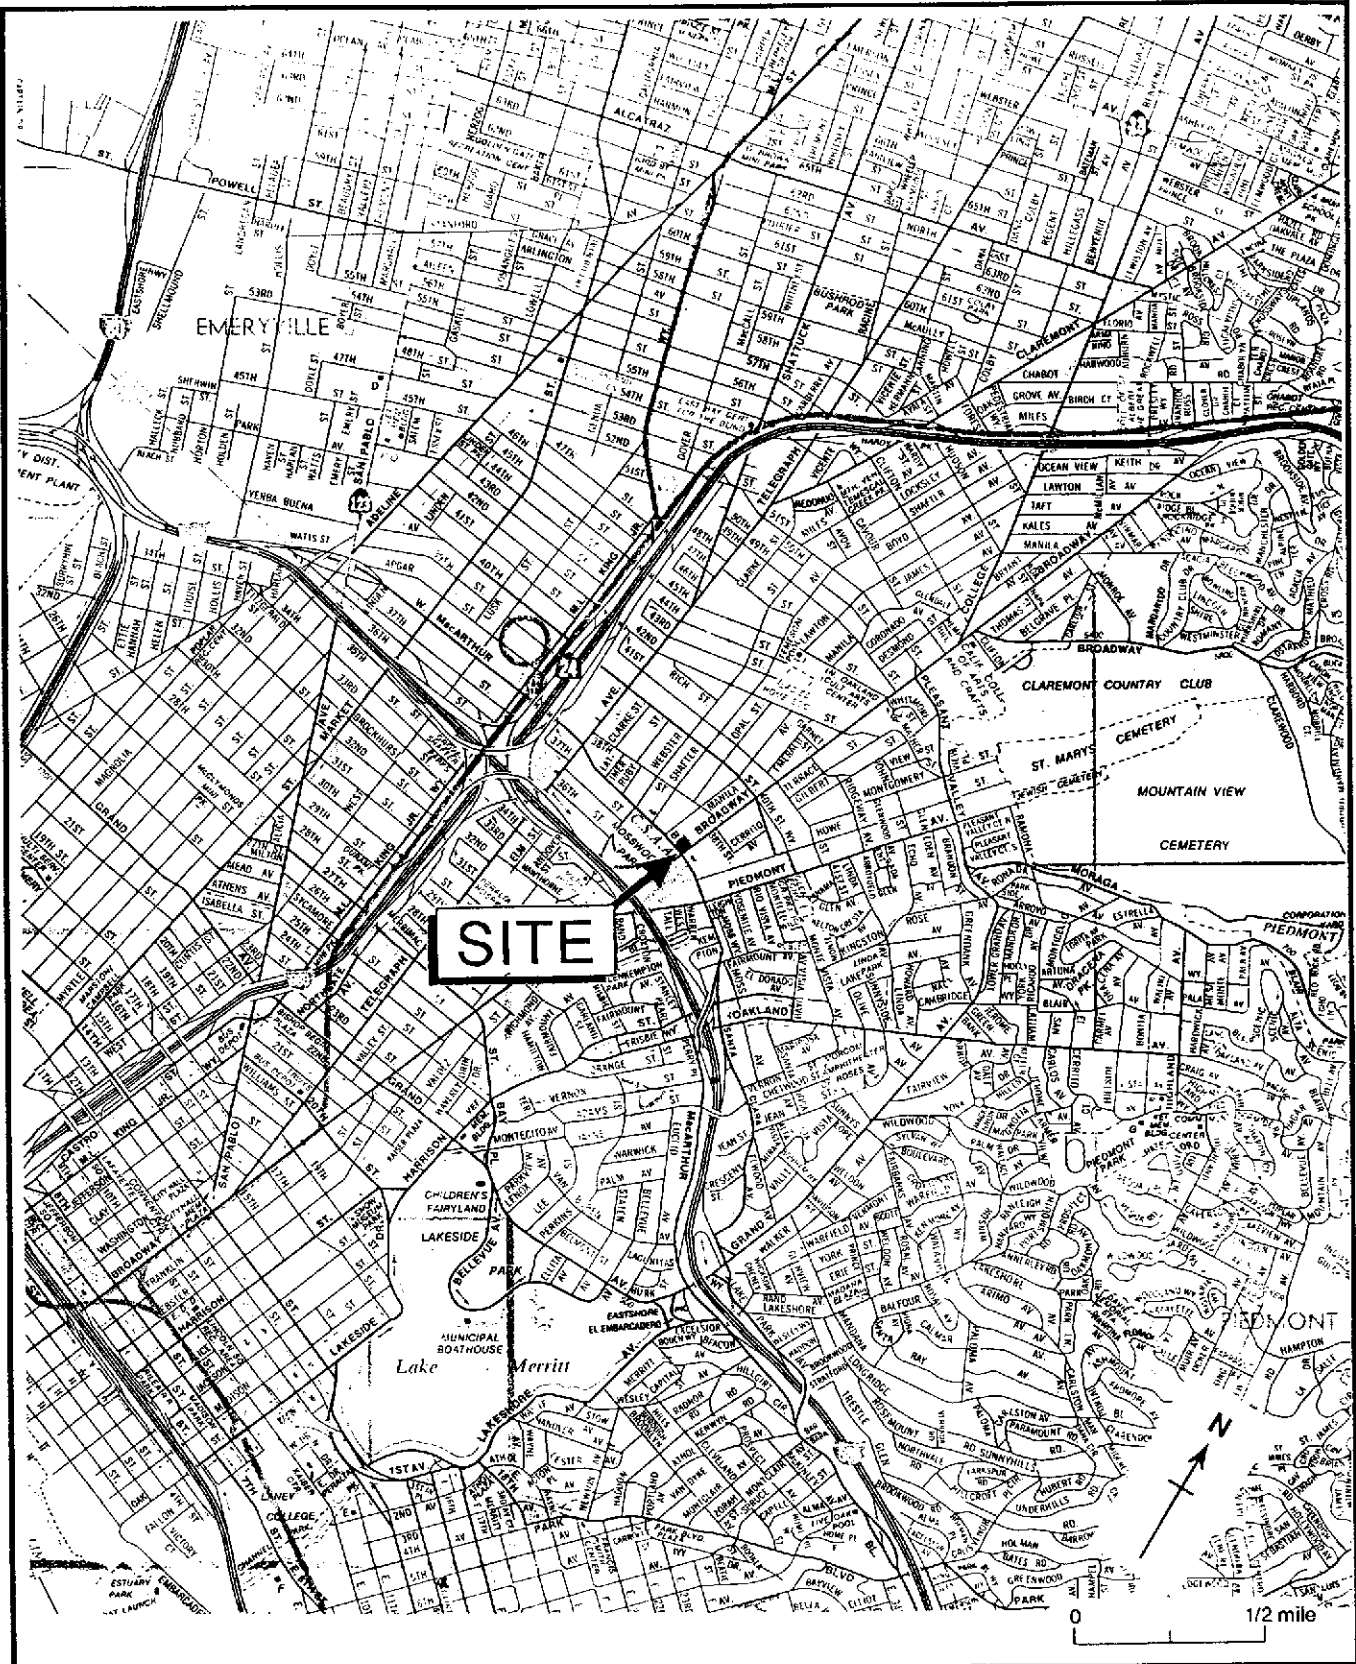
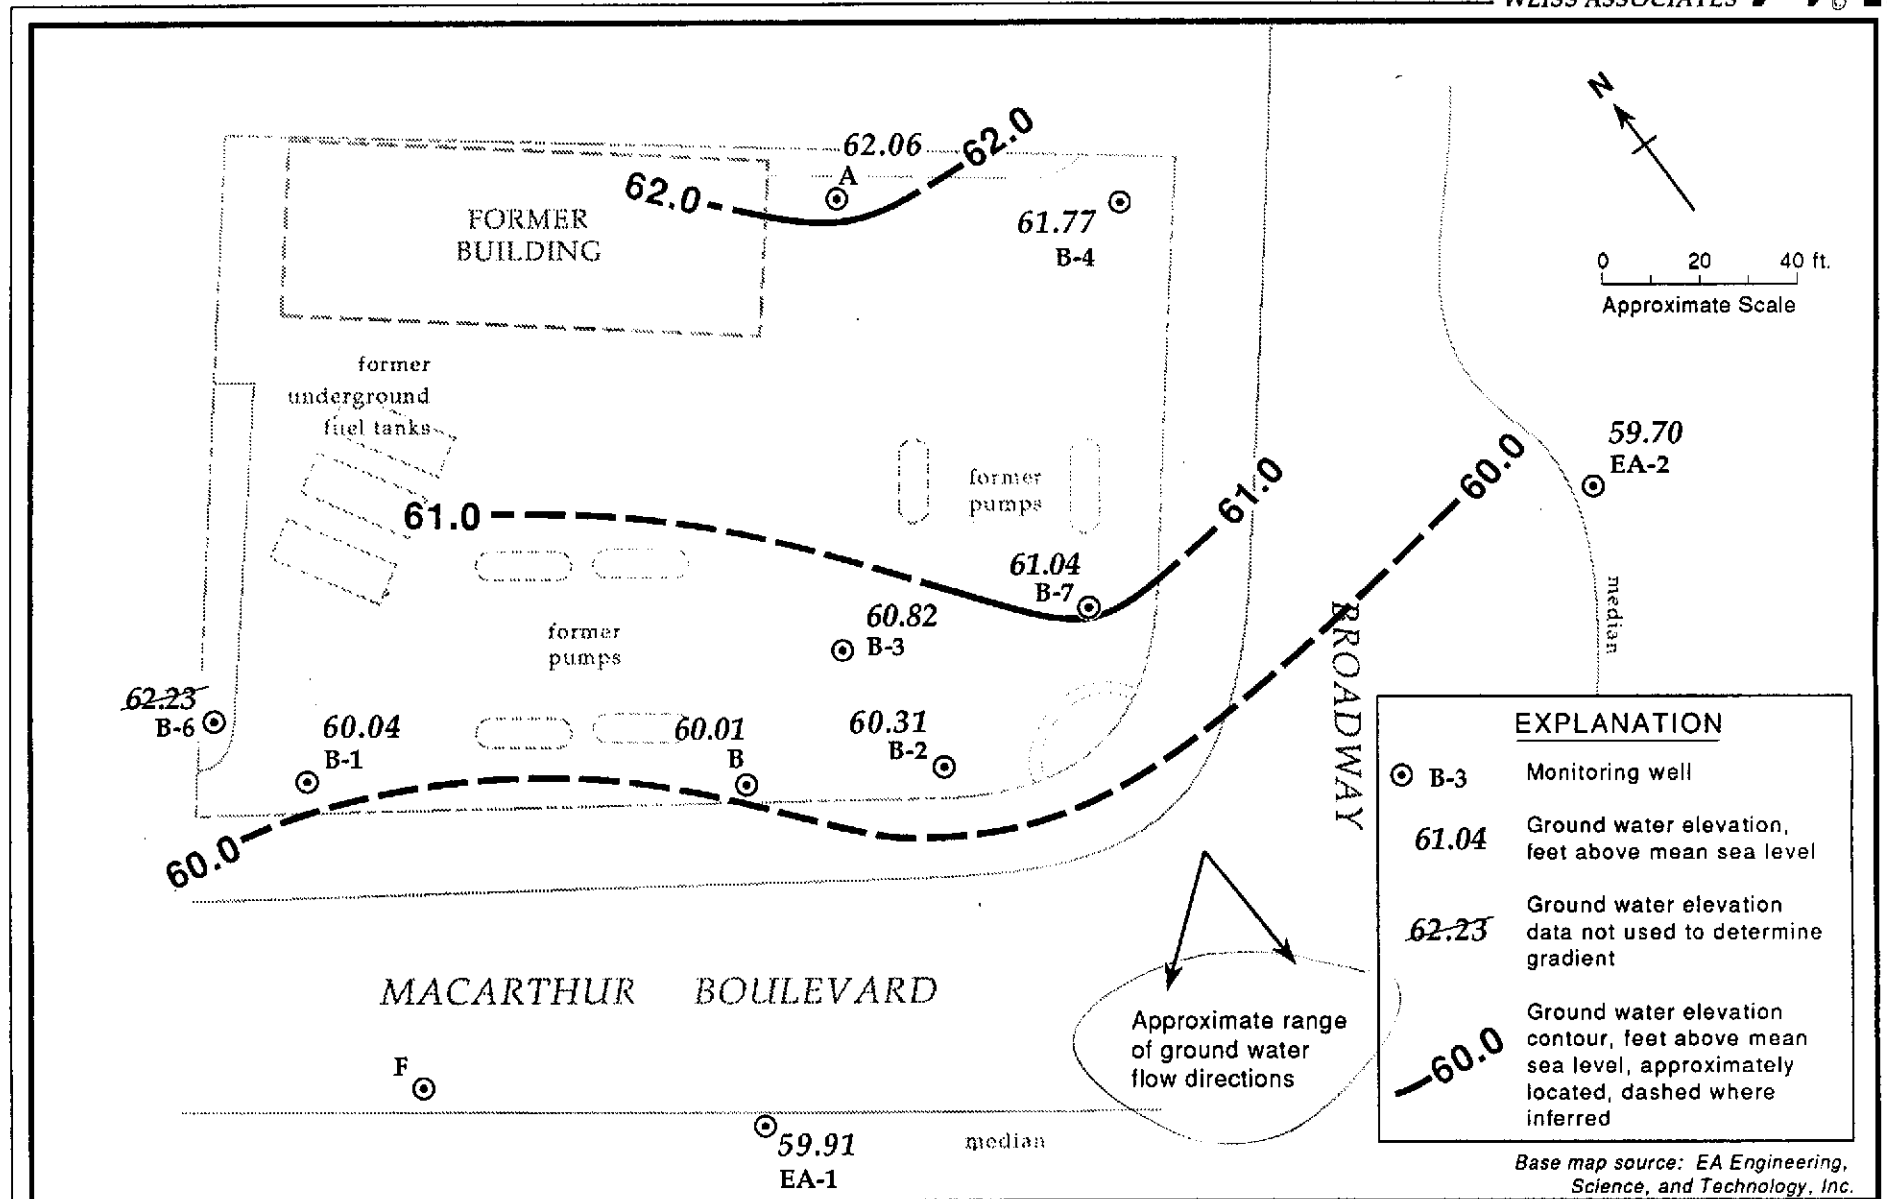

Figure 1. Site Location Map - Former Chevron Service Station #9-1026, 3701 Broadway, Oakland, California
Figure 2. Monitoring Well Locations and Ground Water Contours - April 5, 1991 - Former Chevron Service Station #9-1026, 3701 Broadway, Oakland, California
As you requested, Weiss Associates (WA) is providing this Ground Water Monitoring Report for the subject site (Figure 1). WA sampled the ground water monitoring wells (Figure 2) on March 27, 1991, in accordance with the requirements and procedures of the California Regional Water Quality Control Board - San Francisco Bay Region and local regulatory agencies.
The top-of-casing elevation, depth to ground water and the ground water elevation for each well is presented in Table 1. The ground water flow direction and ground water elevation contours are shown on Figure 2.